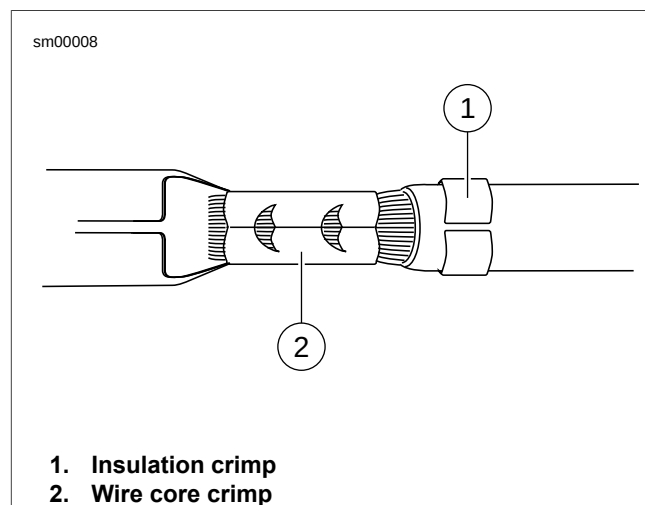

**Figure A-63. Tyco 070 Multilock Unsealed Connector: Terminal Crimping Procedure**
- 1. See Figure A-63. Squeeze the handles to cycle the AMP MULTI-LOCK CRIMPER (Part No. HD-41609) to the fully open position (1).
- 2. Raise locking bar by pushing up on bottom flange (2).
- 3. See Figure A-63. With the insulation crimp tail facing upward, insert terminal (pin or socket) (3) through the locking bar, so that the closed side of the terminal rests on the nest of the crimp tool.
- 4. Release locking bar to lock position of contact (4). When correctly positioned, the locking bar fits snugly in the space at the front of the core crimp tails.
- 5. Insert stripped end of lead (5) until ends make contact with locking bar.
- 8. Raise up locking bar (7) to remove crimped terminal.